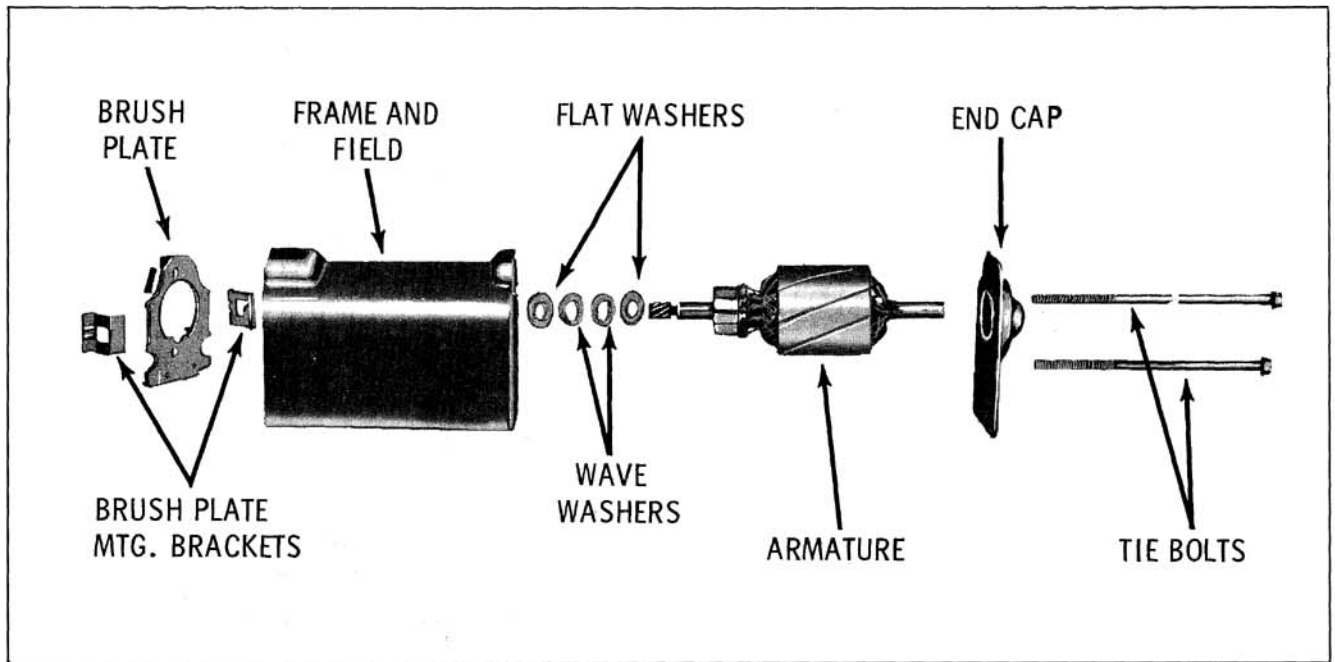

Fig. 13-167 Wiper Motor
2. Remove motor tie bolts. (Fig. 13-167)